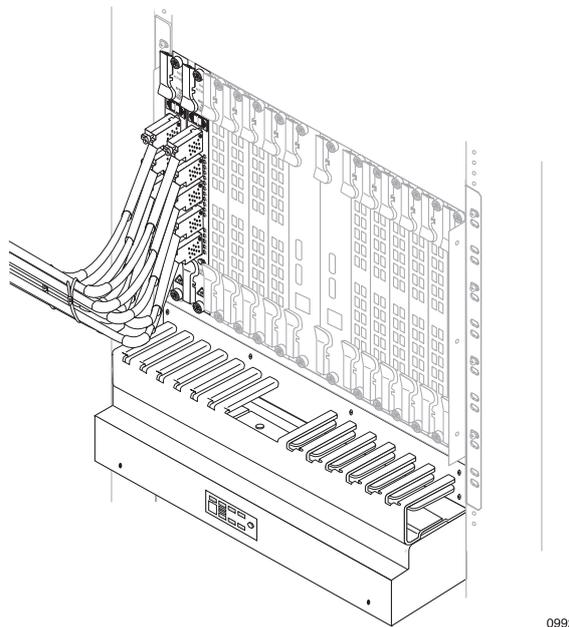

Figure 21 Routing an FE-GE Breakout Cable
- c Place the cable on top of the cable tray, and route the cable to the left, regardless of the slot in which you have installed the FE–GE line card; see Figure 21. This routing direction is compatible with the construction of the cable (the attachment of the MRJ21 connector to the cable itself).